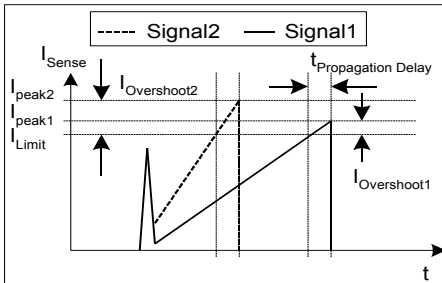

Figure 16 Current Limiting
So current limiting is now capable in a very accurate way (see Figure 16).
E.g.  $I_{peak} = 0.5A$  with  $R_{Sense} = 2$ . Without propagation delay compensation the current sense threshold is set to a static voltage level  $V_{csth} = 1V$ . A current ramp of  $dI/dt = 0.4A/\mu s$ , that means  $dV_{Sense}/dt = 0.8V/\mu s$ , and a propagation delay time of i.e.  $t_{Propagation Delay} = 180ns$  leads then to a  $I_{peak}$  overshoot of 12%. By means of propagation delay compensation the overshoot is only about 2% (see Figure 16).